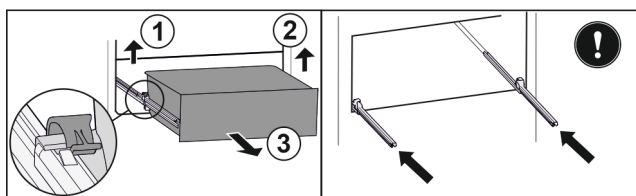

Fig. 130
- Lift left clamp and simultaneously pull drawer forwards on the left. Fig. 130 (1)
- Lift right clamp and simultaneously pull drawer forwards on the right. Fig. 130 (2)
- Remove drawer to the front. Fig. 130 (3)